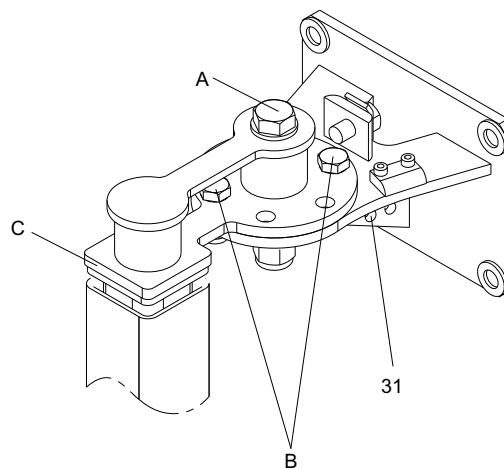
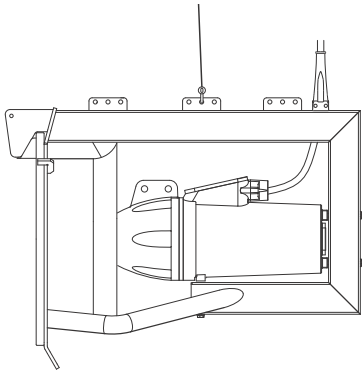

Fig. 5 Top fixation
Fig. 6 Mounting of lifting wire on the pump rack
7. Position and align the column profile with the profile section on the connection flange. Shorten the column profile (2) to the correct length to match the position of epoxy insulator (C) at the top fixation bracket. A gap of 0.20 to 0.40 in (5 to 10 mm) between collar of epoxy and column profile is optimal. See fig. 5.
8. Remove the epoxy insulator and the turnable metal part by removing the centre bolt (A) and the two fixation bolt (B).
10. Place the column profile on the profile section on the connection flange and mount the top end with the epoxy insulator and the turnable metal part on the already installed top fixation bracket. Tighten the three bolts (A) and (B) in the desired position. It is possible to adjust the angle in steps of 7.5 °.
14. Mount the lifting wire on the pump rack using the shackle. See fig. 6.
15. Mount the top end of the safety wire to the hole (31, fig. 5) of the top fixation bracket by means of a shackle. The other end of the safety wire ends in a shackle through which the lifting wire must run.